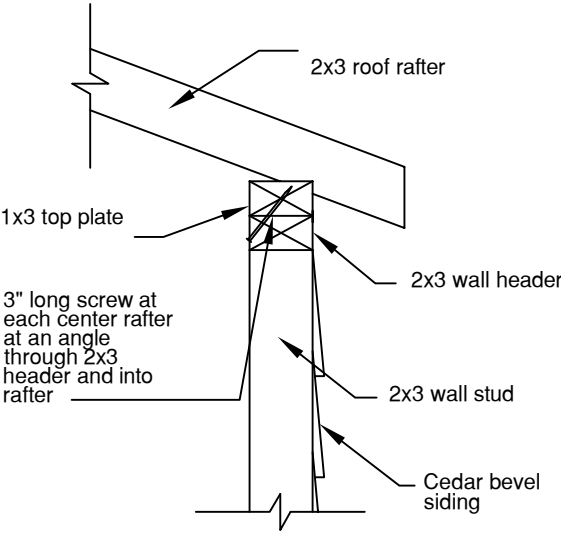

FIGURE S15
- When complete, take the Metal Flashing Shingles and slide them one by one between the rows of Cedar Shingles along the Roof Panels Joints (FIGURE S15)